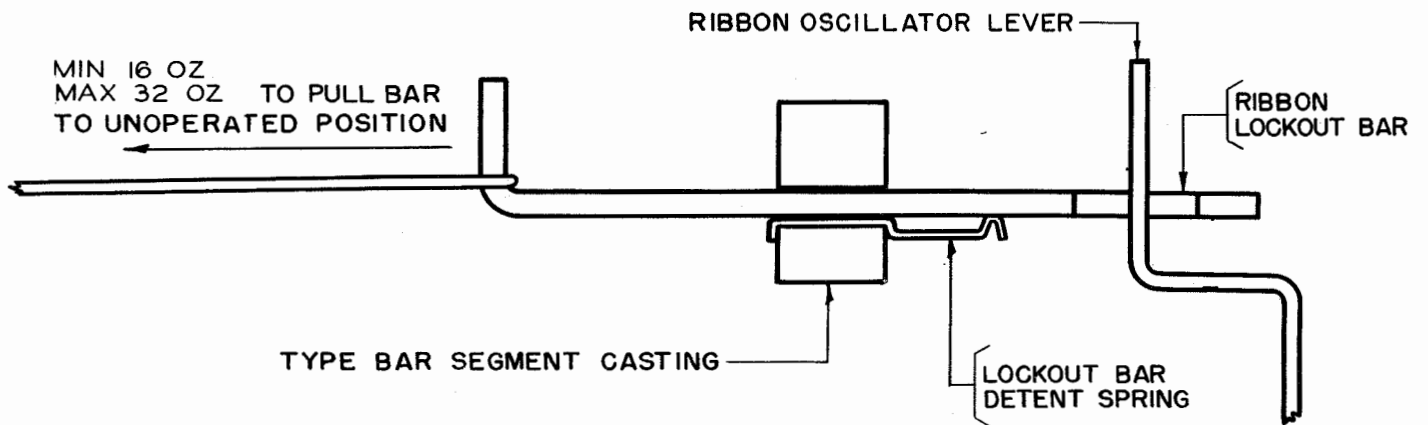

Figure 16
2.29 Ribbon-lockout-bar Detent Spring on typing units equipped with nonadjustable ribbon-lockout bar, should have a tension of minimum 16 ounces, maximum 32 ounces, when the ribbon-oscillator extension is held clear of the lockout bar and the latter is pushed in. See Figure 16.